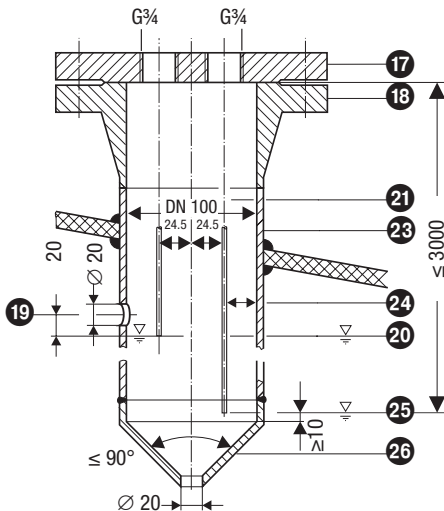

Fig. 17 Protection tube (provided on site) if electrode is used as internal water level-limiter combined with water level control or high water level alarm
- **One** level electrode NRG 1...-50 can be installed together with one GESTRA level electrode, one level switch or transmitter for water level control or high level alarm in one single protection tube or level pot (inside diameter 100 mm). **Fig. 17.** If the electrode NRG 1...-50 is installed inside the vessel, it must be at least 40 mm away from the upper vent hole.